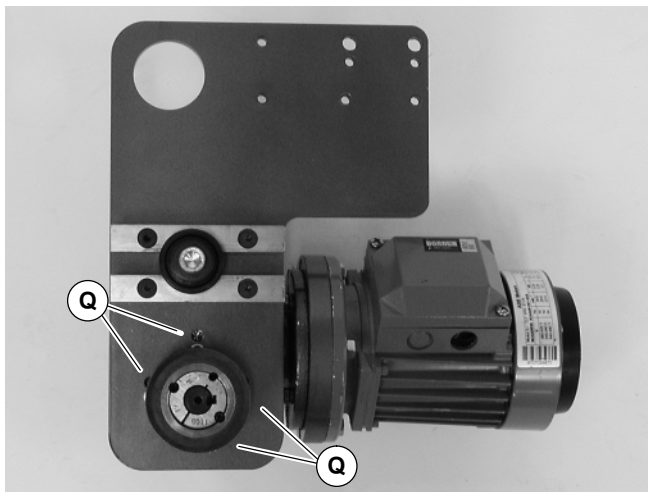

Figure 5
2. If required, change gearmotor position by removing four (4) screws (Q of Figure 5). Rotate gearmotor to other position and replace screws (Q). Tighten to 12 Nm.